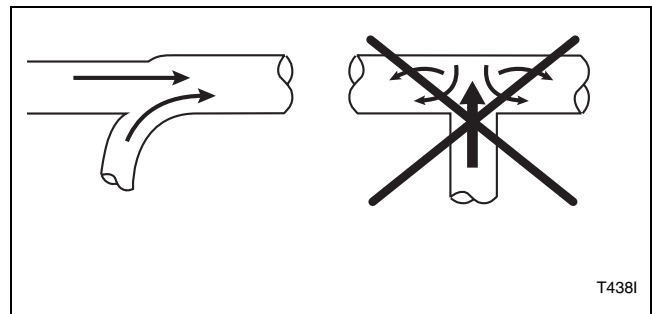

Figure 11
**Never connect a tumbler duct at a 90° angle to the collector duct. Refer to *Figure 11*. Doing so will cause excessive back pressure, resulting in poor performance. Never connect two tumbler exhaust ducts directly across from each other at the point of entry to the collector duct.**